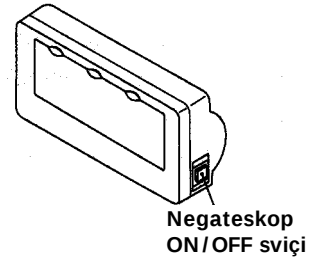

Fig. 3-15 Dental Hacimde Negateskop
- (6) Dental Hacimde Negateskop (Fig.3-15)